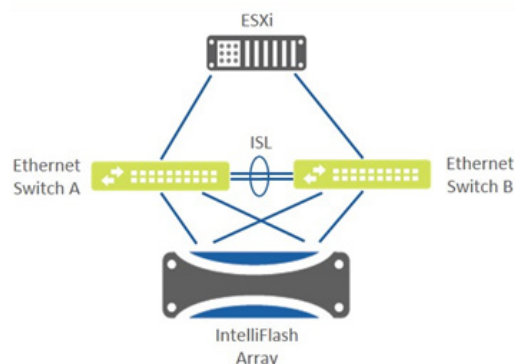

Figure 2 - IntelliFlash iSCSI / NFS Stacked Network
Figure 2 illustrates a fully redundant topology between the host and both controllers of the IntelliFlash system, with redundant paths from host to storage through redundant storage network switches. This is an example of stacked switch topology.
- A minimum of two ports per controller is recommended: one port connected to switch A, and the other port connected to switch B, similar to what Figure 2 illustrated.